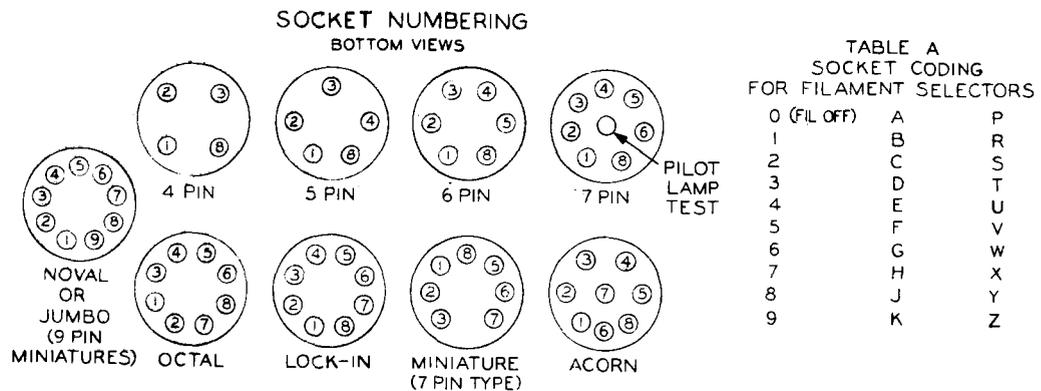

Fig. 10
6.01 For non-Western Electric electron tubes it may sometimes be desirable either to verify the SELECTORS setting code or in certain cases to base a new type for which no roll chart setting is available, if the new type is an equivalent electronically to a listed tube. The test sockets in this tester are number coded for basing purposes as shown in Fig. 10. From the socket numbering arrangement and Table A of this figure, the correct filament or heater pin basing may be determined. The numbers appearing on each type socket, i.e., 4 pin, 5 pin, etc., represent the selector code setting number to be used in basing the various elements of any particular tube as related to their function, such as filament, grid, plate, etc. The latter functions all appear as separate SELECTOR dials, but are not so designated on the main panel of the tester. From left to right the first 2 selectors are filament, and the remaining 5 are grid, plate, screen, cathode and suppressor, in that order.
6.02 In particular, attention is directed to the code numbers 1 and 8 appearing on every socket. These represent the most common filament (or heater) terminal assignments for most tube types. This arrangement has been used to minimize the over-all variation required in the two filament selector settings, and is evident from the frequency of appearance of the code JR on the roll chart, as derived from Table A of Fig. 10. The majority of variations in filament selector settings appear more often in 7- and 9-pin miniatures (Noval and Jumbo), and occasionally in the octal socket, as for example, where the heater pins 7
and 8 of certain tube types result in a JX filament selector code setting. Another example is found in 7-pin miniature tubes where pins 1 and 7 of this tube are sometimes assigned as filament. These are selector codes numbered 3 and 7 and result in a filament setting code of DX from Table A of Fig. 10. In any case the opposite code could also be used for filament pin basing, for example, HT instead of DX in the example just given.
6.03 The remaining basing for the grid, plate, screen, cathode and suppressor switches is accomplished by viewing the desired coded number socket to be used in Fig. 10 and associating the grid, heater, screen, cathode positions or whatever elements are found on the new tube to be based, and using the code numbers found on the required Fig. 10 socket, as selector settings for each function (grid, plate, etc.). For example in the 6AK5 or Western Electric 403B, using tube base data for element pins as found in any handbook, this type is based for SELECTOR settings as follows:
would be JR-3562-7 in order to ground the separate G3 suppressor grid element also. When an external cap grid or plate is used, the grid or plate selector is set at 0. In the case of diode or rectifier plate element pins, the diode or rectifier plate elements are always associated with the PLATE selector switch. (In this case a separate setting is required to test each diode or rectifier plate section.) The two 9-pin types (Noval and Jumbo) and the lock-in pin codes are straightforward (see Fig. 10) and require no code interpretation except for FILAMENT pin assignments.